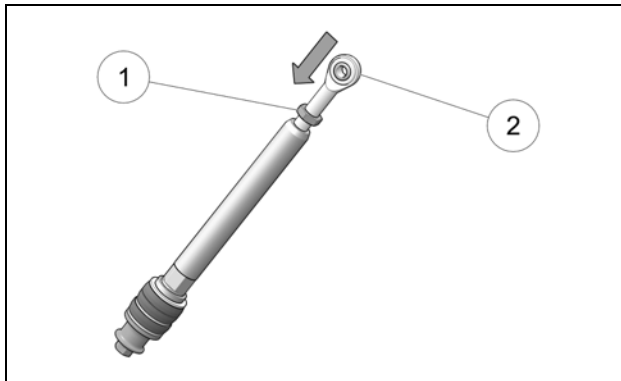

Figure 6
- Loosen jam nut (1) locking rod end (2). Screw the rod end all the way in. See Figure 6.